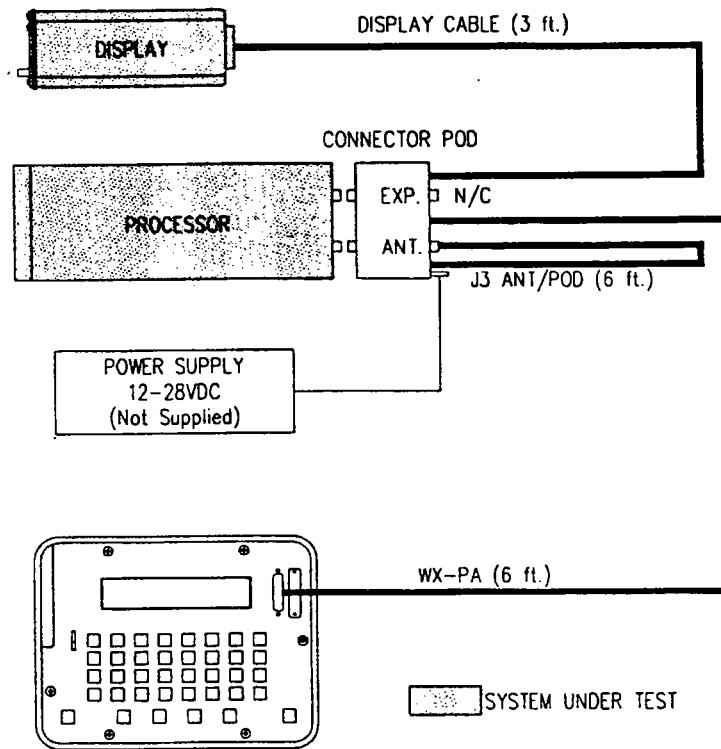

Figure 5-6. Bench Setup Without Antenna
If the system antenna is not going to be tested, the WX-PA will be hooked up to drive the processor directly (see figure 5-6). The *Stormscope* system self-test functions must be disabled as described in section 5.3.2 to prevent the detection of a self-test error. (The WX-PA will not simulate strike test data during the system self-test, resulting in an "ERROR 45" being displayed.)
1. Connect P3 from the bench kit pod to J3 on the bench kit pod. (See figure 5-6.)